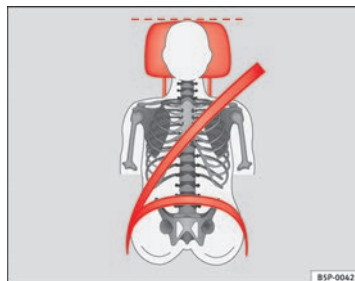
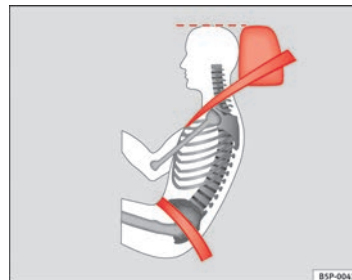

Fig. 91 Front view: head restraints and seat belts correctly adjusted
Fig. 92 Side view: head restraints and seat belts correctly adjusted
- Adjust the head restraint so that the top is at the same level as the top of your head or as close as possible to the same level as the top of your head, at least at eye level ⇒ Fig. 91 and ⇒ Fig. 92.